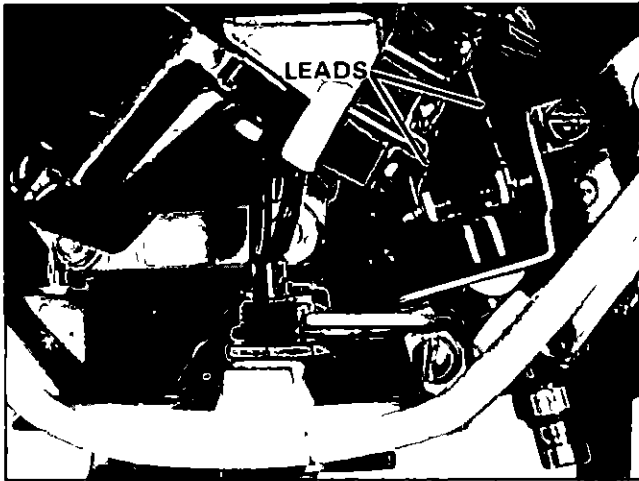

Figure 9. Removing Starter Switch.
- B If a standard screw driver only is available, starter switch with bracket must be removed to get at fuel pump. Figure 9